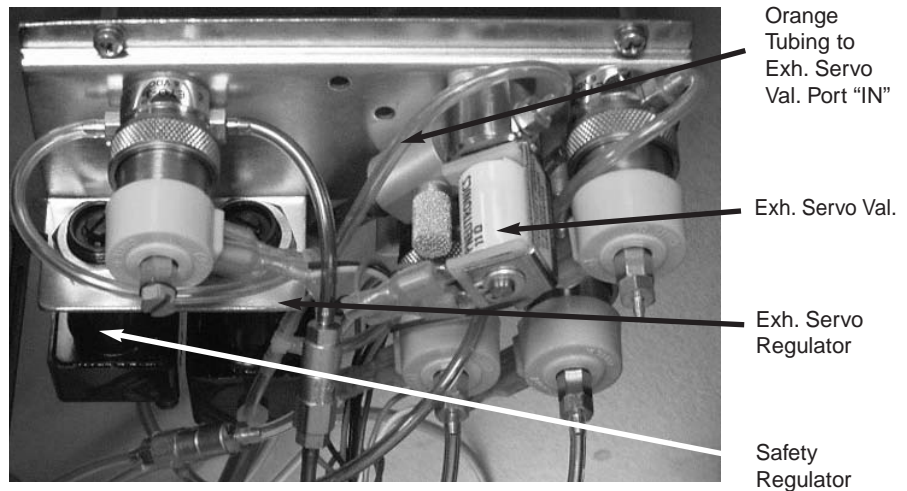

Figure 5-4 Exhalation Servo / Safety Regulators
- 1 Take the **ORANGE** tubing from the Exhalation Servo Valve port “IN” and connect to a calibrated high pressure gauge, see Figure 5-4.
- 5 Use a flat head screw driver to adjust the Safety Regulator, see Figure 5-4, to obtain 140 ± 5 cmH₂O of "Machine 1" pressure displayed on LCD touch screen.